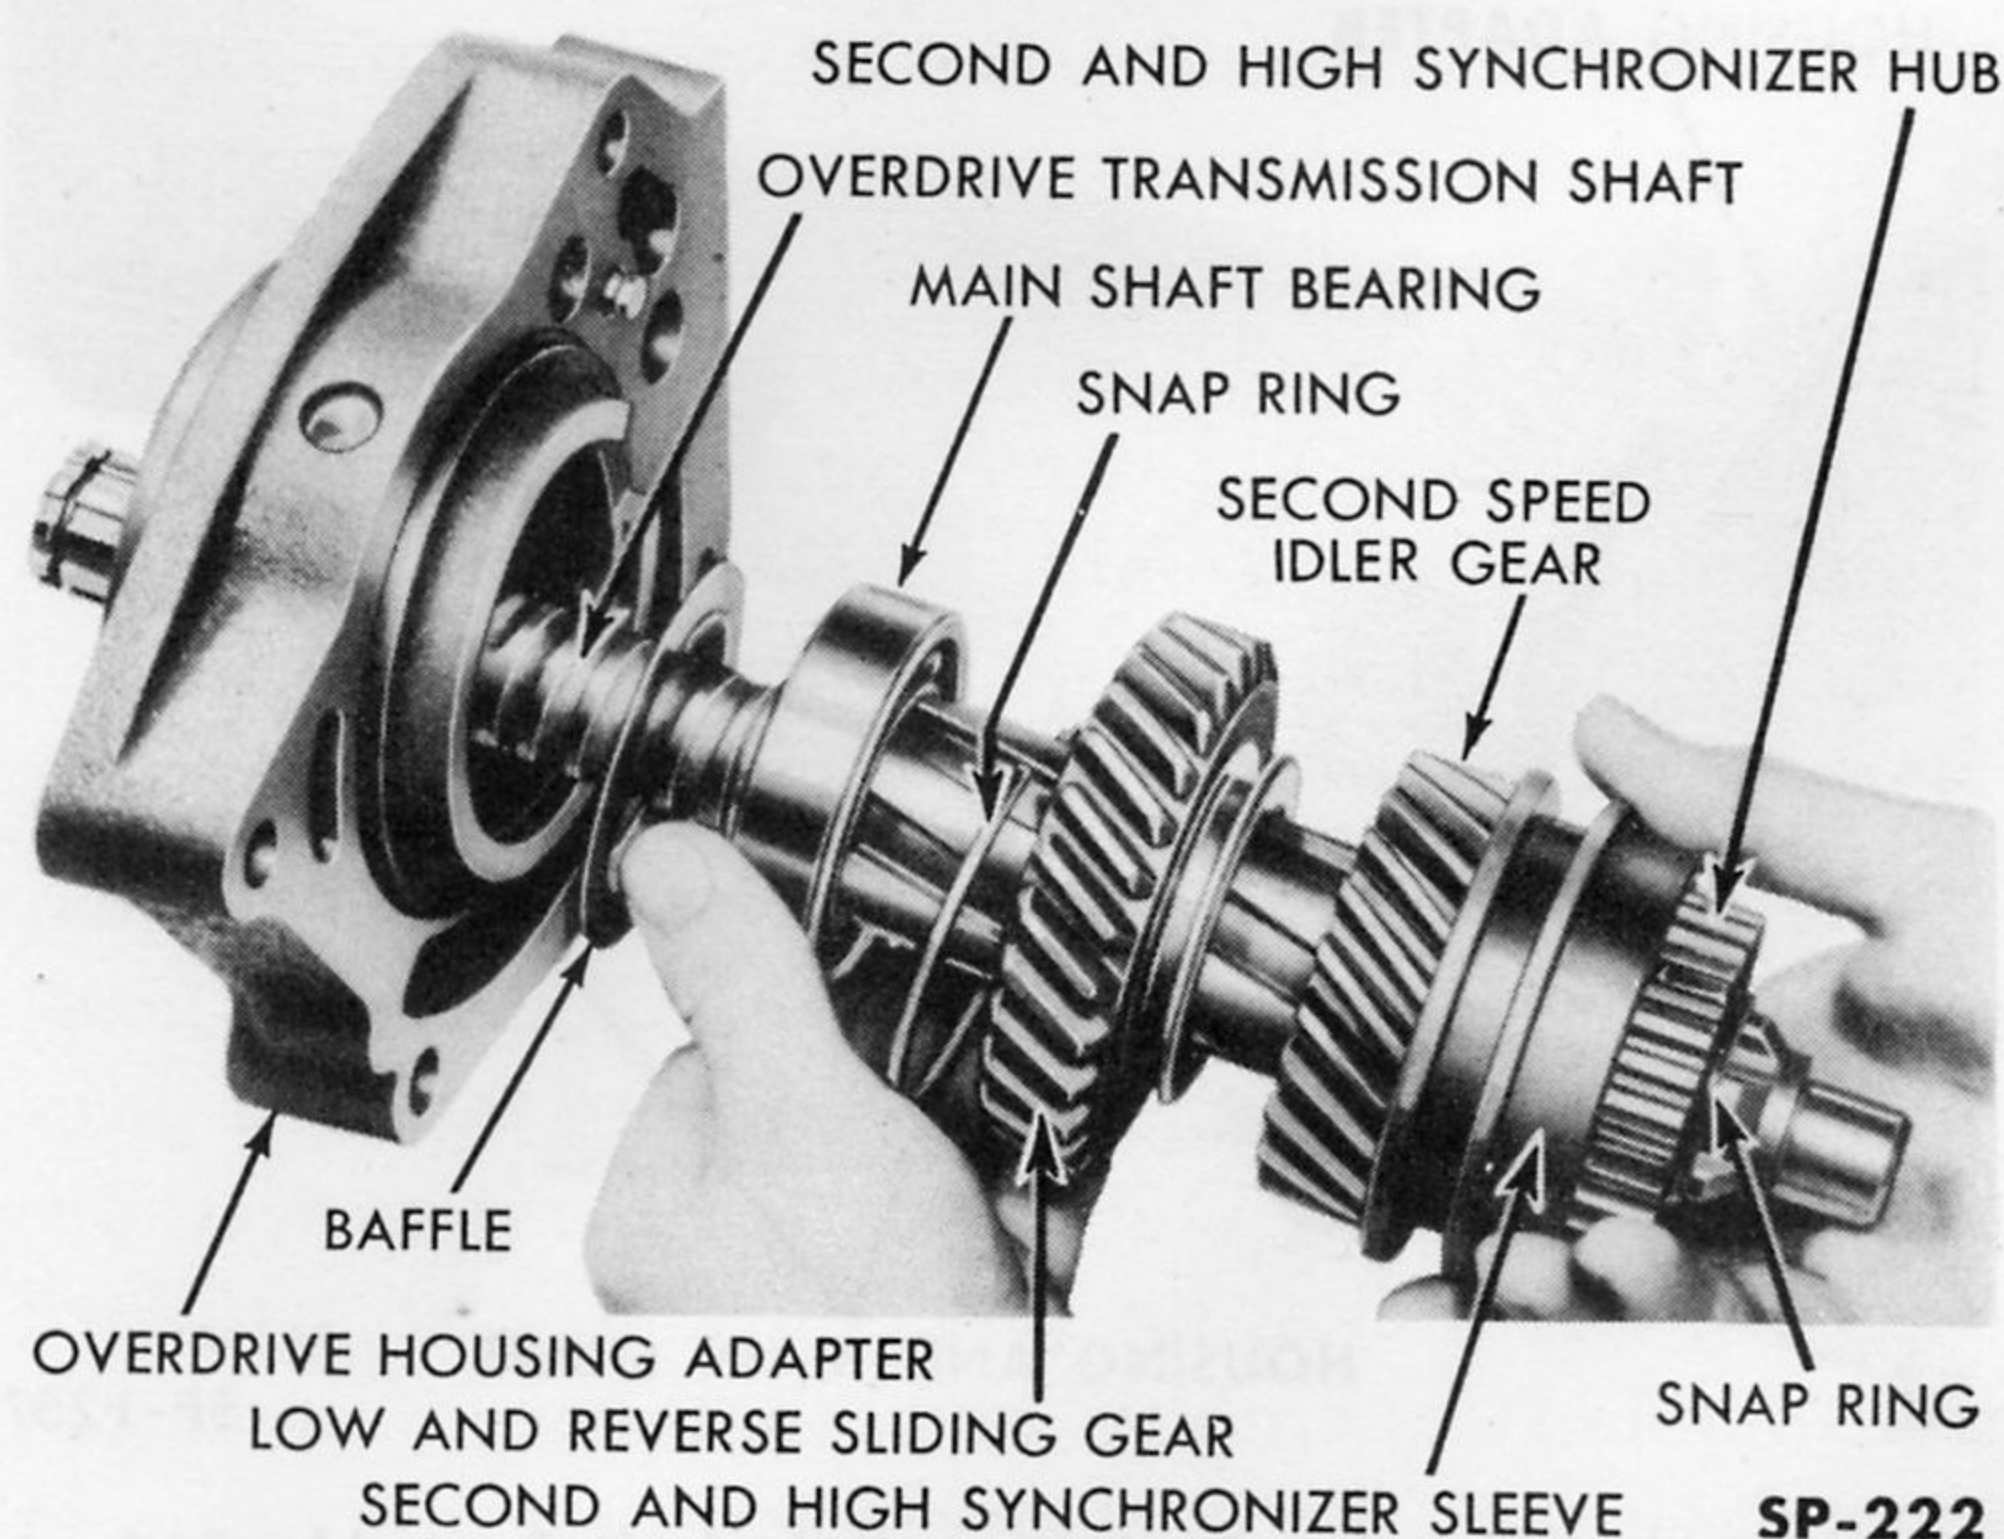

Fig. 217—Overdrive Transmission Shaft Assembly Components
d. OVERDRIVE TRANSMISSION SHAFT DISASSEMBLY. The position of the components of the overdrive transmission shaft assembly should be carefully noted prior to disassembly so that they may be reassembled in their respective positions (Fig. 217). Proceed as follows: